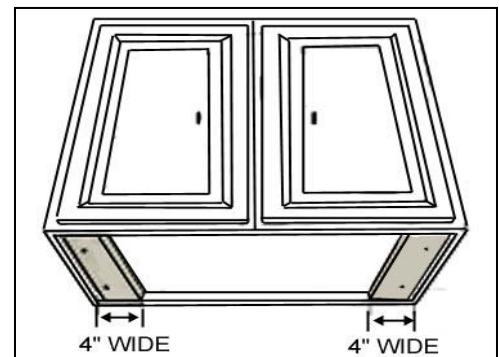

Figure 5
14. For installing under the cabinet with recessed bottom, attach 4-inch wide wood filler strips (not included) on each side (Figure 5).